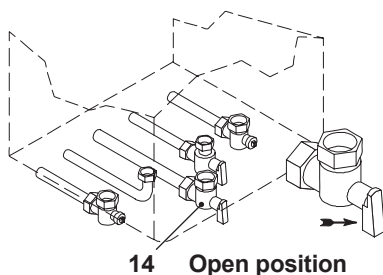

Fig. 8.7
- Open the gas cock (14 in Fig. 8.7).